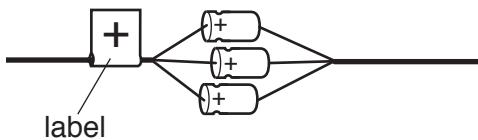

Fig. 1.1
- 1 The 22 μF capacitors should be separated into four groups containing 4, 3, 2 and 1. The capacitors in each group should be soldered together in parallel (anodes connected together). The anode end of each group should be labelled +, as shown in Fig. 1.1. It should be possible to connect each group, in turn, into a component holder.